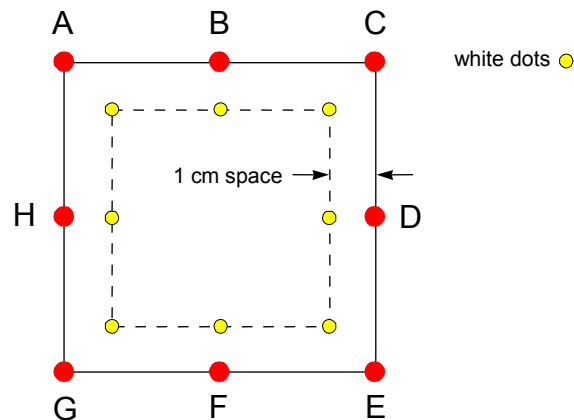

Figure 3.3. Points on a closed rectangular path on the conductive paper.
- Now consider a rectangular box that encloses the outermost white dots as illustrated in Figure 3.3 below. Use the voltmeter to measure the potential difference between adjacent points around the rectangular box and record these into Table 2 a). The positioning of the probes need not be exact but it is important to start at the exact end point of the previous measurement.